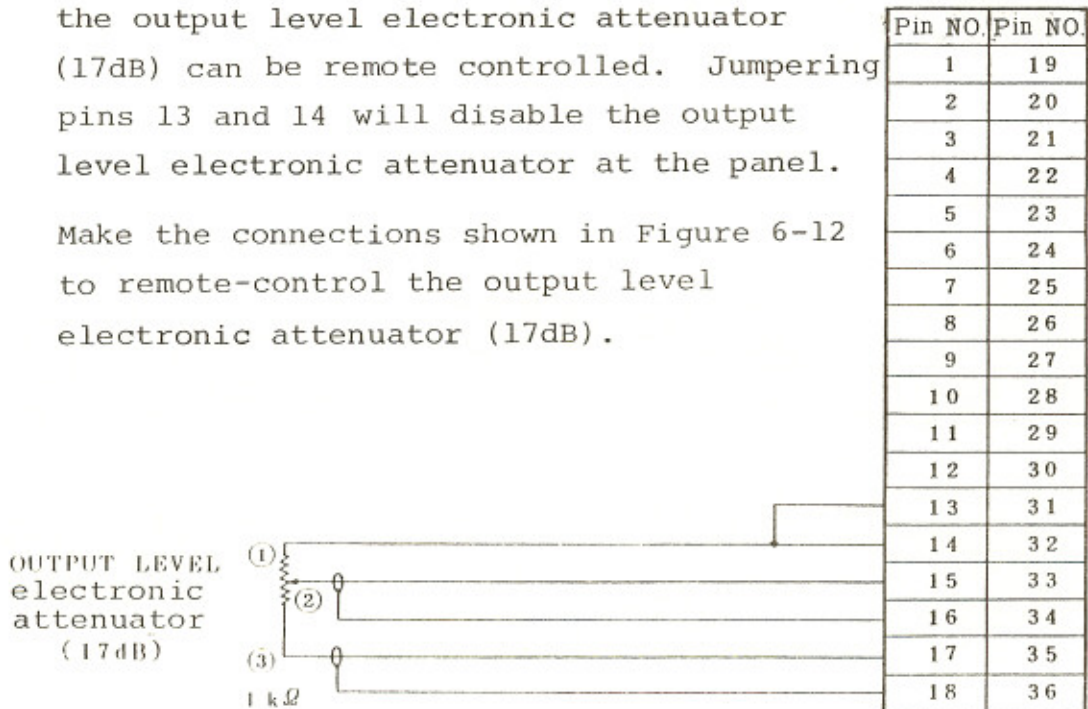

Figure 6-12 Output level remote control
- (2) When REMOTE ANALOG connector pin 13 OUTPUT LEVEL REMOTE ON and pin 14 GND are jumpered to each other, the output level electronic attenuator (17dB) can be remote controlled. Jumpering pins 13 and 14 will disable the output level electronic attenuator at the panel. Make the connections shown in Figure 6-12 to remote-control the output level electronic attenuator (17dB).